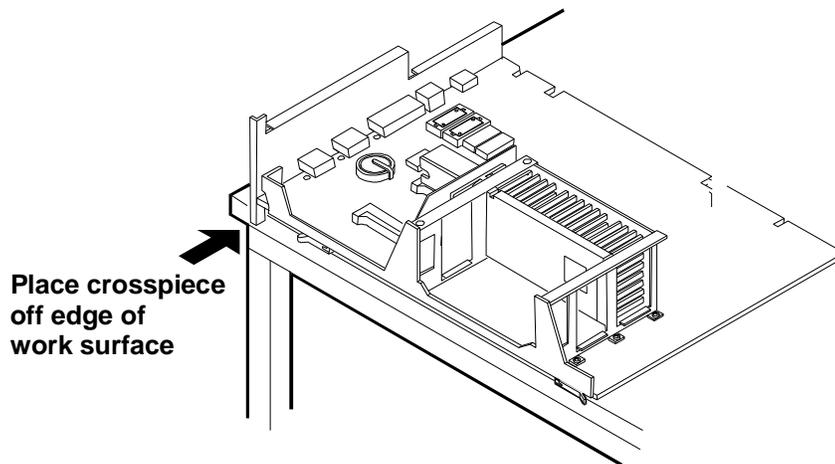

Figure 1-8. Placing the System Board on the Work Surface
2. Lift the system board out of the NetServer, and place it component side up on the anti-static mat. Lay the system board flat, with the metal crosspiece on the top rear corner of the system board extending off the work surface (see Figure 1-8).